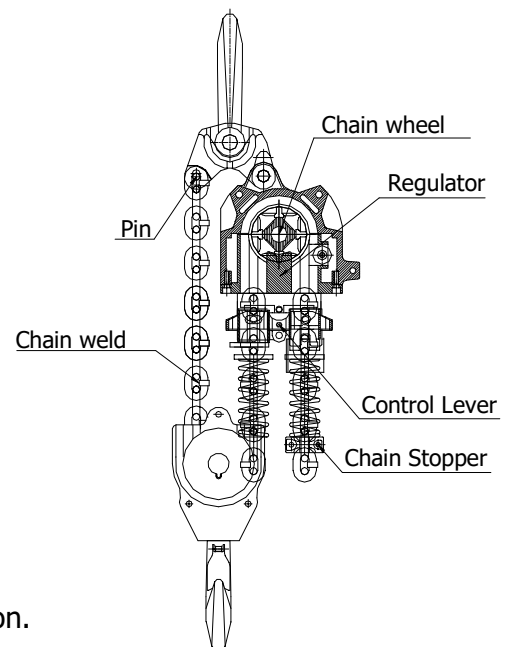

Fig. 10
Note the position of the link weld on all standing links – see Fig. 10.
- 6) Double Load chain fall Hoists: YSA-200, YSA-630 (See Fig. 10)
- ① Pass a steel wire through the Bottom hook Assembly Hook and attach the end link on the load side of the Load chain onto the steel feed wire.
- ② Ensure that the Load chain is straight, then feed the Load chain through the Bottom hook Assembly by pulling the steel feed wire through the Assembly.